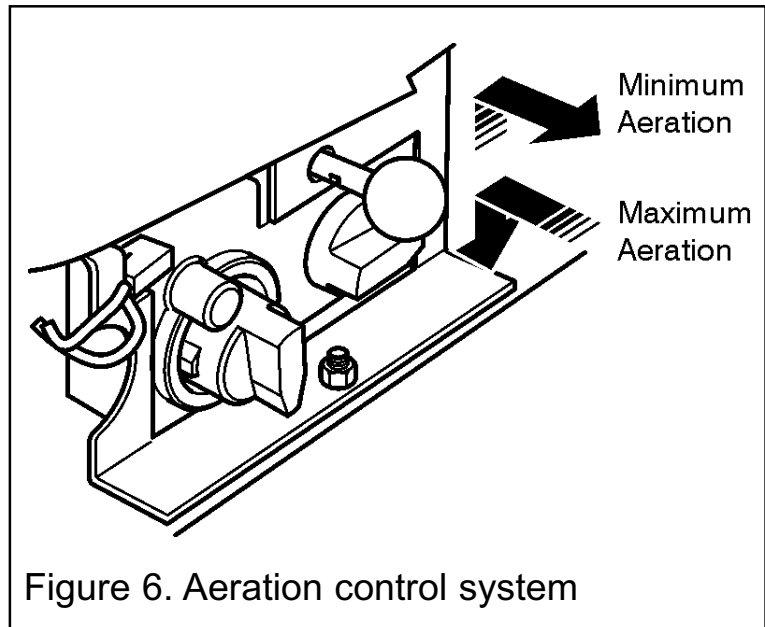

Figure 6. Aeration control system
- This appliance is fitted with an aeration control (See figure 6).